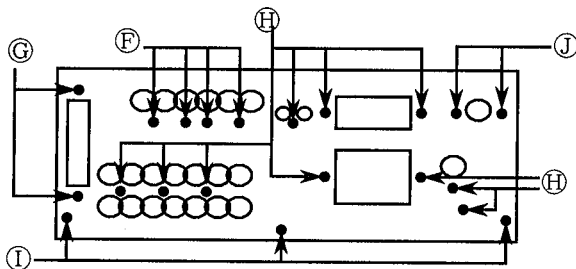

FIG.3 Rear side
2. Remove 19 screws (F),(G),(H) and (I). And remove 2 screws (J). (FIG.3)
2. Remove 2 screws (C).(FIG.3)
5. Remove 3 screws (I).(FIG.3)